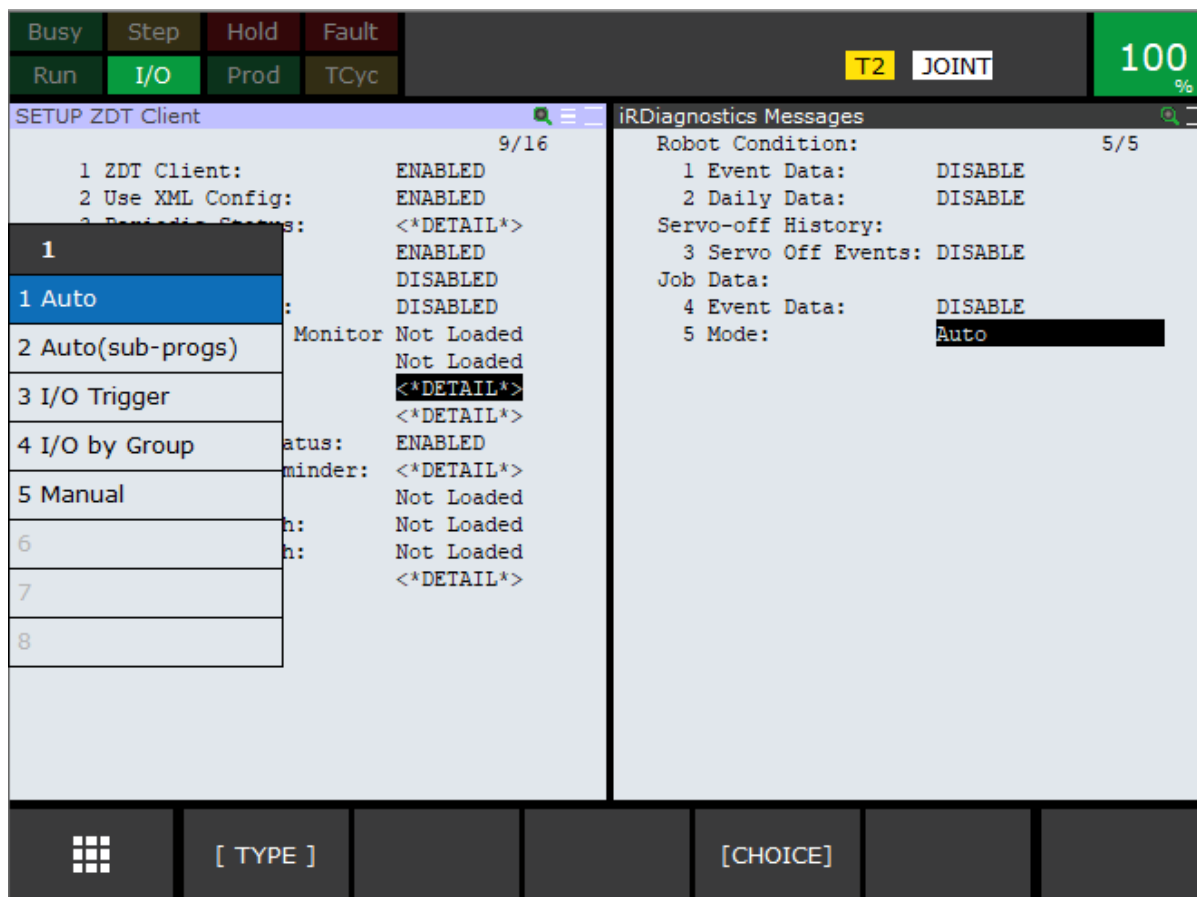

Figure 3.1.3.1 (a) Job Data Mode Selection
3. **I/O Trigger:** An I/O point is used to trigger the Job Data. I/O type, port number, and trigger type (when the I/O turns on or off) can be set by using the menu items shown in Figure 3.1.3.1 \(b\).